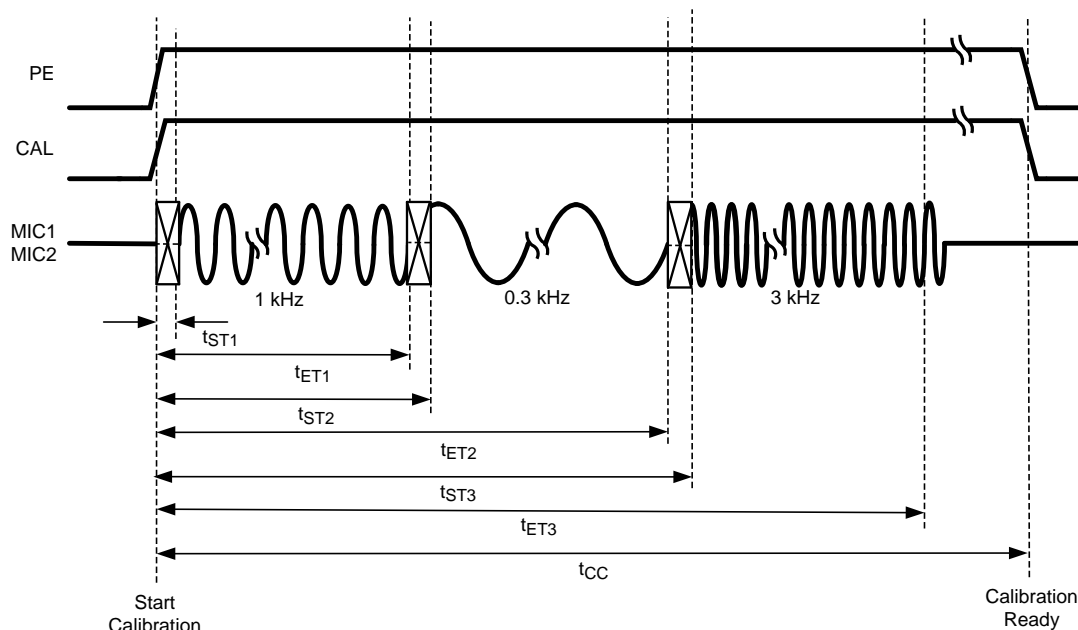
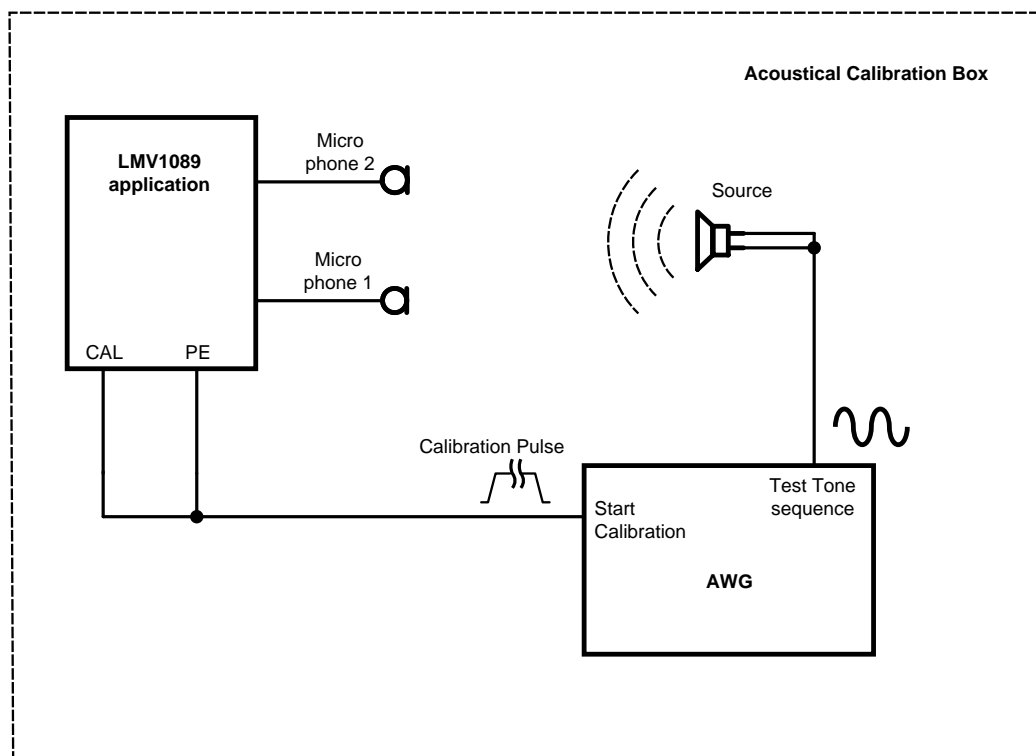

Figure 31. Calibration Timing
Figure 32.
- Apply Audio stimulus (single tone 1kHz or three tone sequence as described in PERFORMING A THREE TONE CALIBRATION) (see Figure 31).
To perform a one tone calibration, a 1kHz test tone is required right after the PE and CAL inputs are brought to a logic high level and that tone should be stable during the time as indicated in Table 6. At the end of this sequence the calibration data is automatically stored in the internal EEPROM (see Figure 31).
The three tones have to be applied as follows (see Figure 31):
A tone may be applied prior to the rising of CAL start signal and PE. Signals applied to the microphone outside the limits shown in Figure 31 and Table 6 are ignored by the calibration system.
A calibration test setup consists of a test room (acoustical box) with a loudspeaker (acoustical source) driven with the test tone sequence from Figure 31. The test setup is shown in Figure 32. The distances between the source and microphone 1 and microphone 2 must be equal and the sound must travel without any obstacle from source to both microphones.